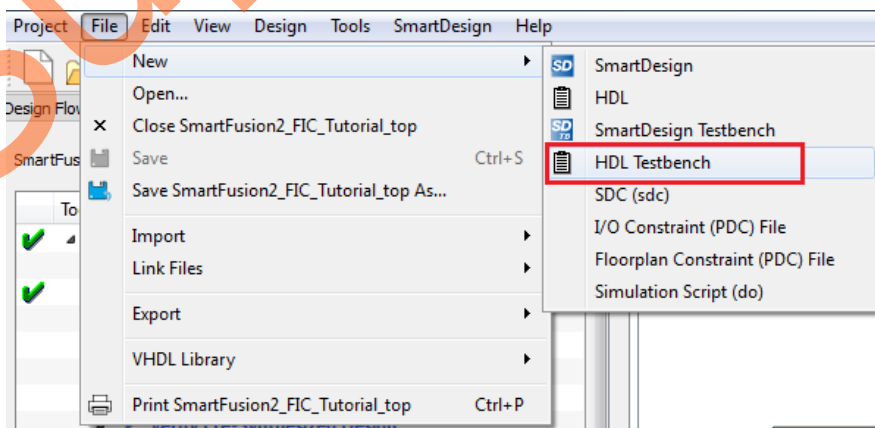

Figure 26 • HDL Testbench
- From the **File** menu, select **New > HDL Testbench** as shown in Figure 26.